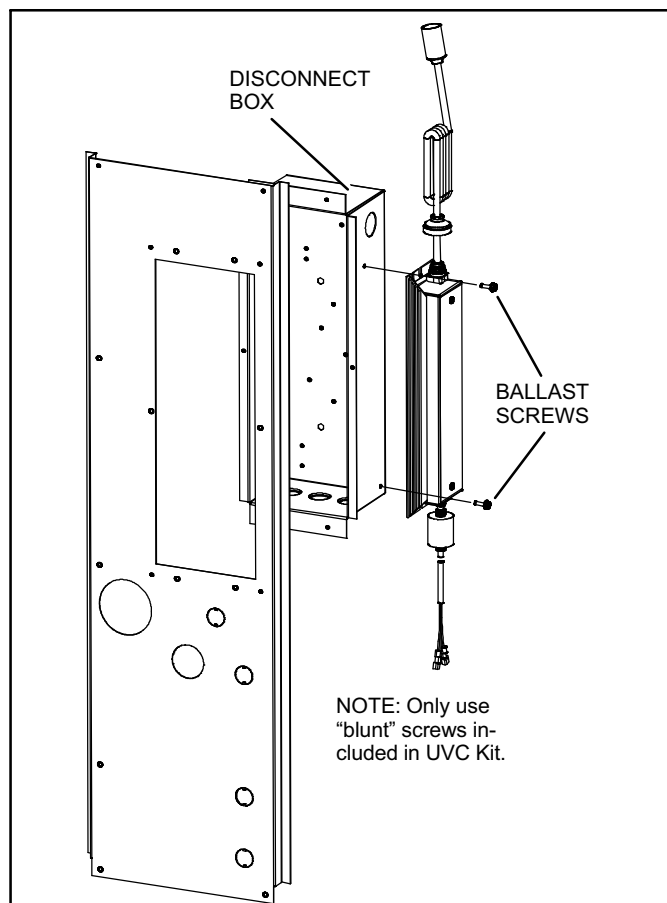

Figure 2. Installing Ballast on side of Disconnect Box
1. If the rooftop unit includes the disconnect box, install the ballast directly to the side of the disconnect box (see figure 2) using pre-punched mounting holes in disconnect box. Use "blunt" tip screws included with the kit. Go to step 3.